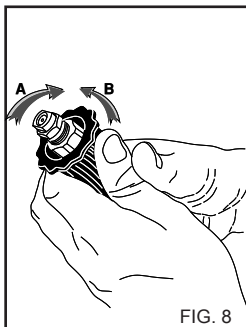

FIG. 8
For the version with detergent suction, activate the detergent suction control on the lance (fig. 8).
4) After using the detergent, rinse the suction circuit. Place the detergent suction hose (fig. 8) in a container of clean water and operate the pump for 1 minute with the lance in the detergent delivery phase.